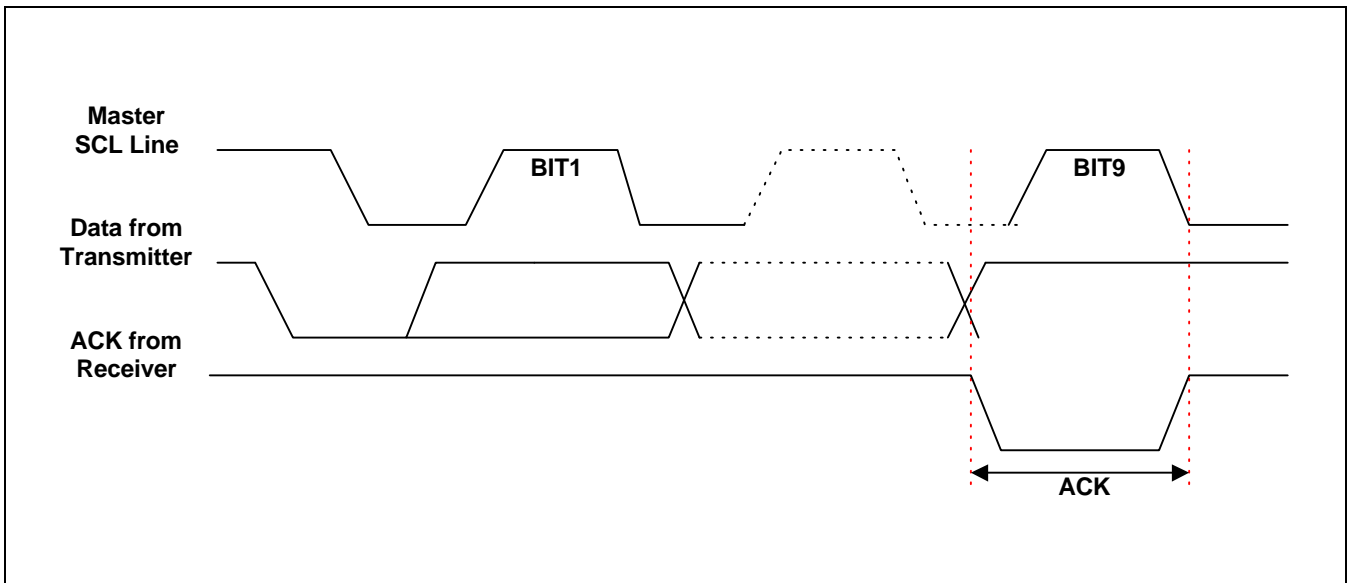

Figure 3-10. Acknowledge Response From Receiver
- **ACK (Acknowledge):** An ACK signal indicates that a data transfer is completed successfully. The transmitter (the master or the slave) releases the bus after transmitting eight bits. During the 9th clock, which the master generates, the receiver pulls the SDA line low to acknowledge that it has successfully received the eight bits of data (see Figure 3-10). But the slave does not send an ACK if an internal write cycle is still in progress.